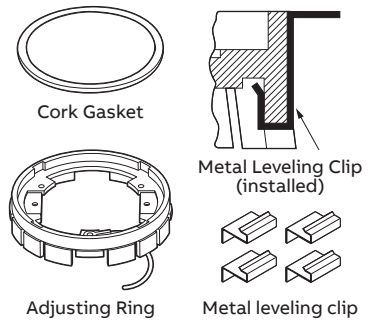

Figure A.2 - 68-PAR Adjusting Ring (Sold separately)
- Thick Cork Gasket ½" (not included) , see Figure A.2
- Attach (4) metal leveling clips to the underside of the adjusting ring as shown in Figure A.2.
- Attach the desired P 60 series cover assembly and 68PFL trim ring to the 68-PAR using the (3) #8-32 x 1" screws furnished with the cover. **IMPORTANT:** Make certain to include the cover gasket and seating plate furnished with cover.
- Remove the cover by unscrewing the (3) #8 x 1" screws and make desired electrical connections.